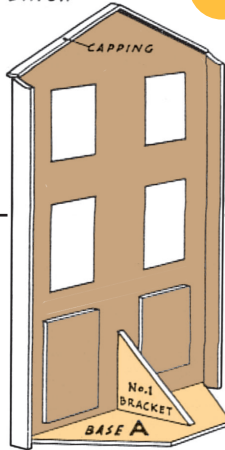

Fig. 1
- 3 Glue Base A to the back, flush along the bottom and at right angles to it, applying at the same time a Strengthening Bracket as shown. (Fig. 1)